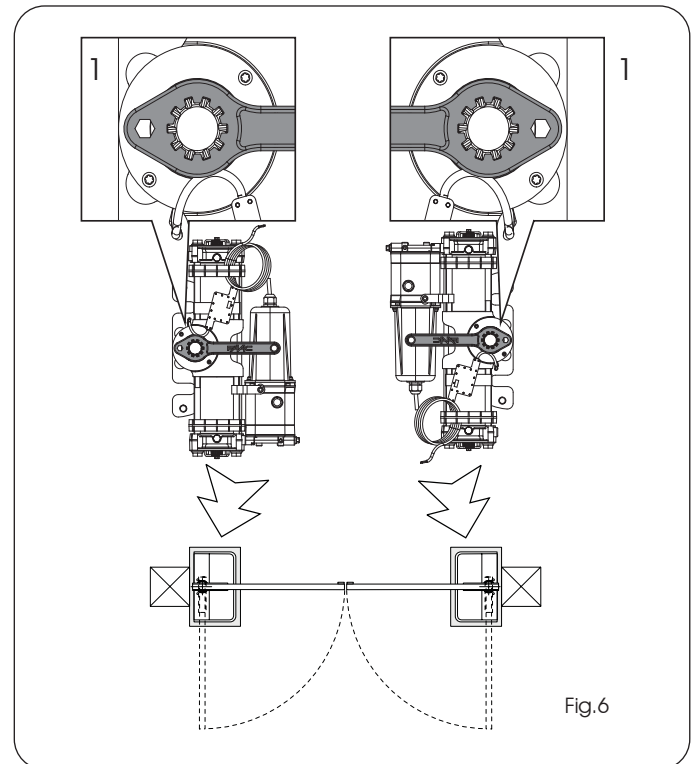

Fig.6
- 6) **Without moving the pinion** re-insert the plastic wrench on the operator, and make sure that it goes in exactly horizontal as shown in Fig.6. If necessary rotate the pinion and readjust the internal positive stop (**Important to correctly couple the pinion with the splined collar**).